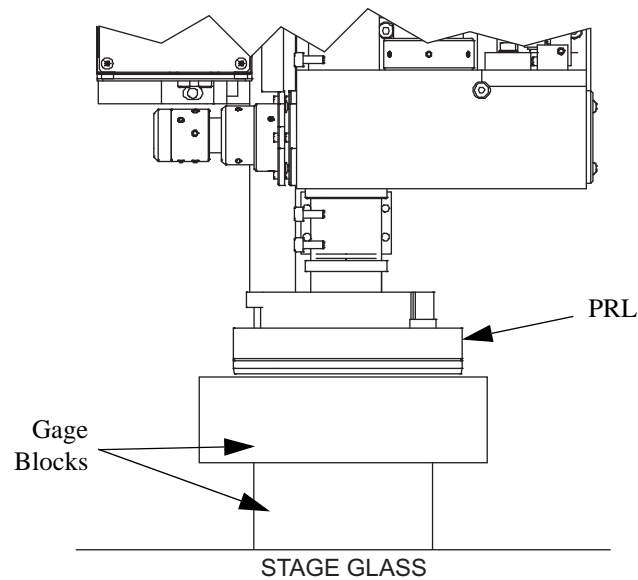

Figure 8-19 Checking for Squareness
- **To set the X direction:** Move the PRL base left or right, keeping the bottom edge of the base against the guide plate. Check for squareness by placing gage blocks under the mirrors (see Figure 8-19). Adjust as necessary.